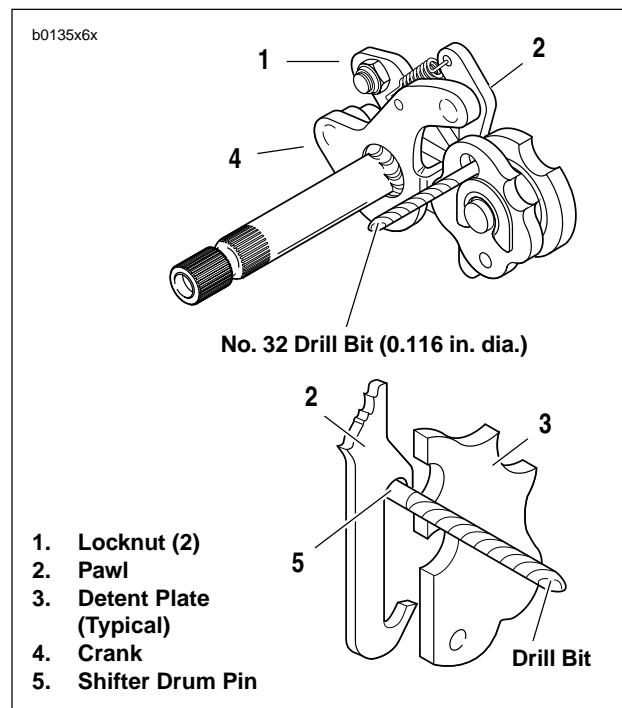

Figure 6-61. Shifter Shaft Assembly Alignment
6. See Figure 6-61. Align shifter shaft.
- b. Place a No. 32 drill bit (0.116 in. dia.) through hole in detent plate (3), and between pawl (2) and drive pin at end of shifter drum shaft.
- c. Push down top of crank (4) to remove all clearance between pawl and drill bit; this will correctly align pawl to shift drum pins (do not push down with too great a force, as this might cause the shifter drum to rotate).
- d. With bit in place, tighten shifter shaft assembly bottom locknut (1) first to 90-110 **in-lbs** (10-12 Nm). Then, tighten shifter shaft assembly top locknut (1) to the same torque.